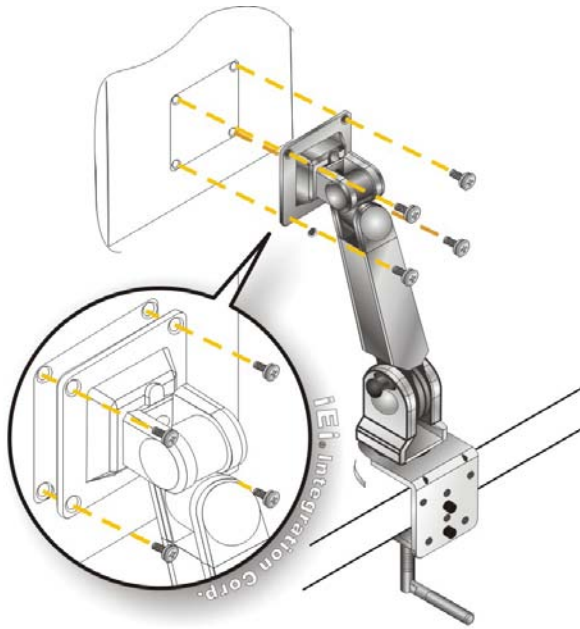

Figure 4-23: Monitor Arm Mounting
Step 2: Secure the monitor to the arm with the supplied retention screws (**Figure 4-23**).